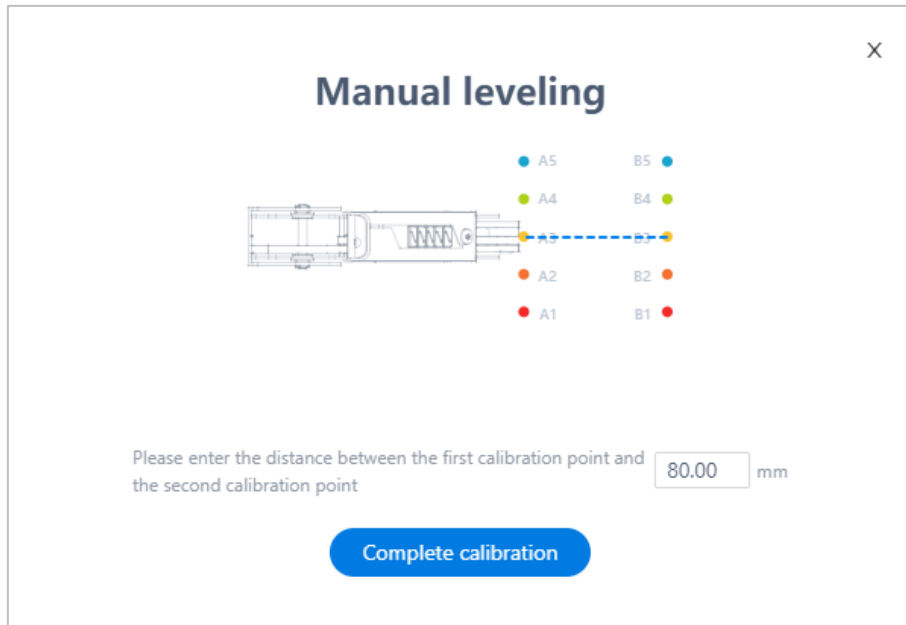

Figure 5.125 Set the distance between two calibrated points
- Step 9** Set the distance between the two calibrated points, as shown in Figure 5.125. As the distance between the two calibrated points on the calibration board is 80mm, please keep the default value in this step.